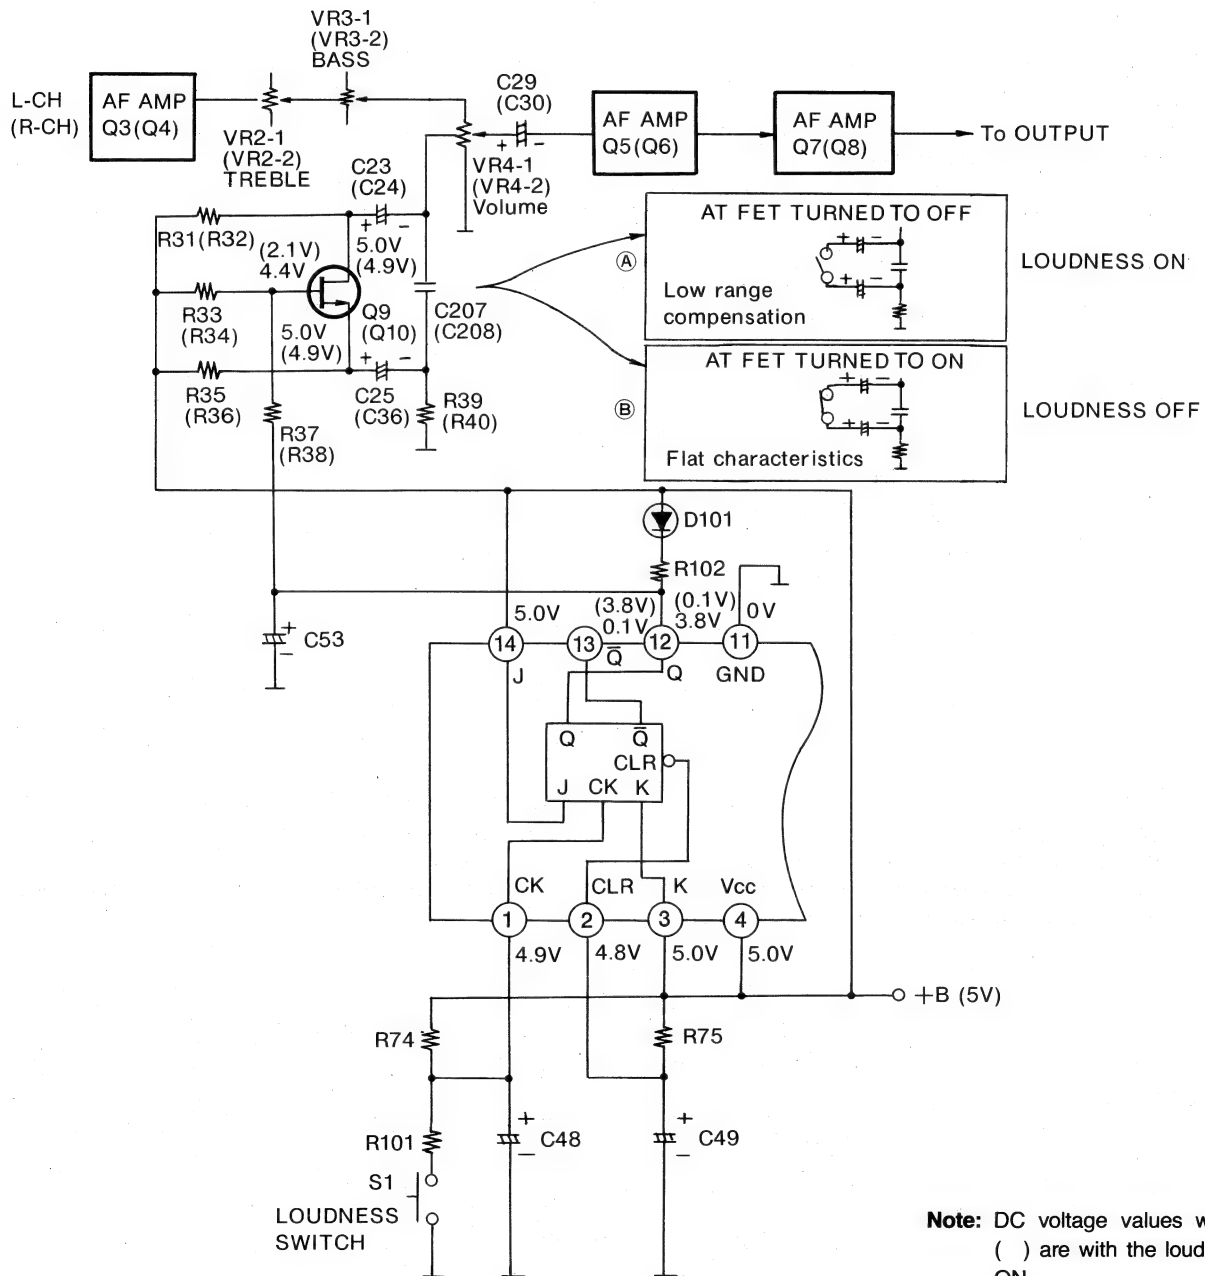

Fig. 34 Loudness-control circuitry-Preamp
1. In the circuit shown in figure 34, when the power source is turned on, the output "Q" of the J-K flip-flop becomes "L" therefore the gate voltage of the FET switch Q9 (Q10) becomes low level, and Q9 (Q10) is off at this time.
2. When Q9 (Q10) is off, the source-drain interval of Q9 (Q10) is opened, so it can be expressed by equivalent circuitry such as shown in Fig. 34 A.
3. As can be seen in the circuit shown in Fig. 34 A, the mid- and high range is decreased by C207 (C208) to the level set by R39 (R40), and, as a result, the low range becomes the increased frequency response.
7. In the circuit shown in Fig. 34 B, the electrostatic capacity of the electrolytic condenser is set very big compared to C207 (C208), and, for that reason, the AF signal frequency response becomes flat to the level determined by R39 (R40).